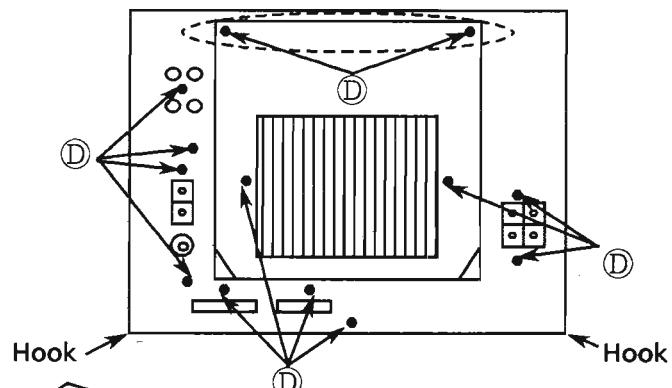

Figure 3 Rear view
1. Remove the 2 screws Ⓒ in the broken line to remove the heat sink cover (Figure 3).